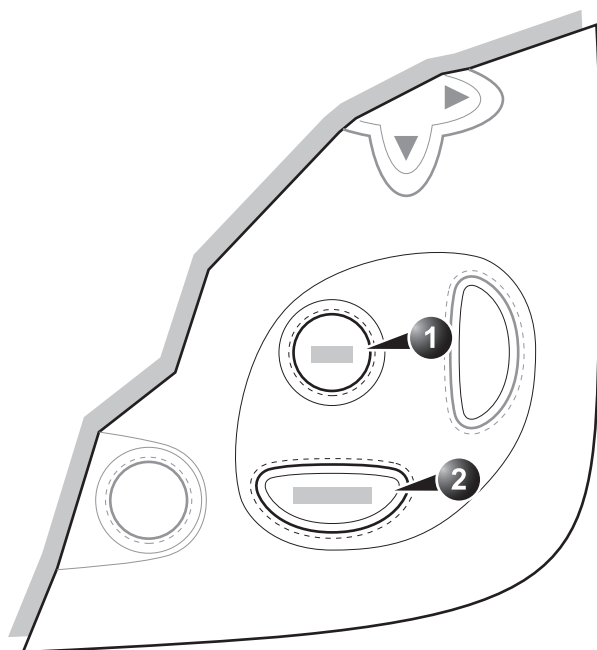

Figure 11-5: The printer The printer controls on the Control panel
The *Video Counter/Search window* is displayed (Figure 11-5).
The Vivid 7/Vivid 7 PRO ultrasound unit can support a color and a black & white thermal video printer. The printer devices are controlled from the **PRINT** keys on the control panel (see Figure 11-5).
1. Press **PRINT** or **ALT.** on the Control panel (see Figure 11-5). The image displayed on the screen is printed on B&W or Color printer, depending on the key assignment configuration (see page 432).